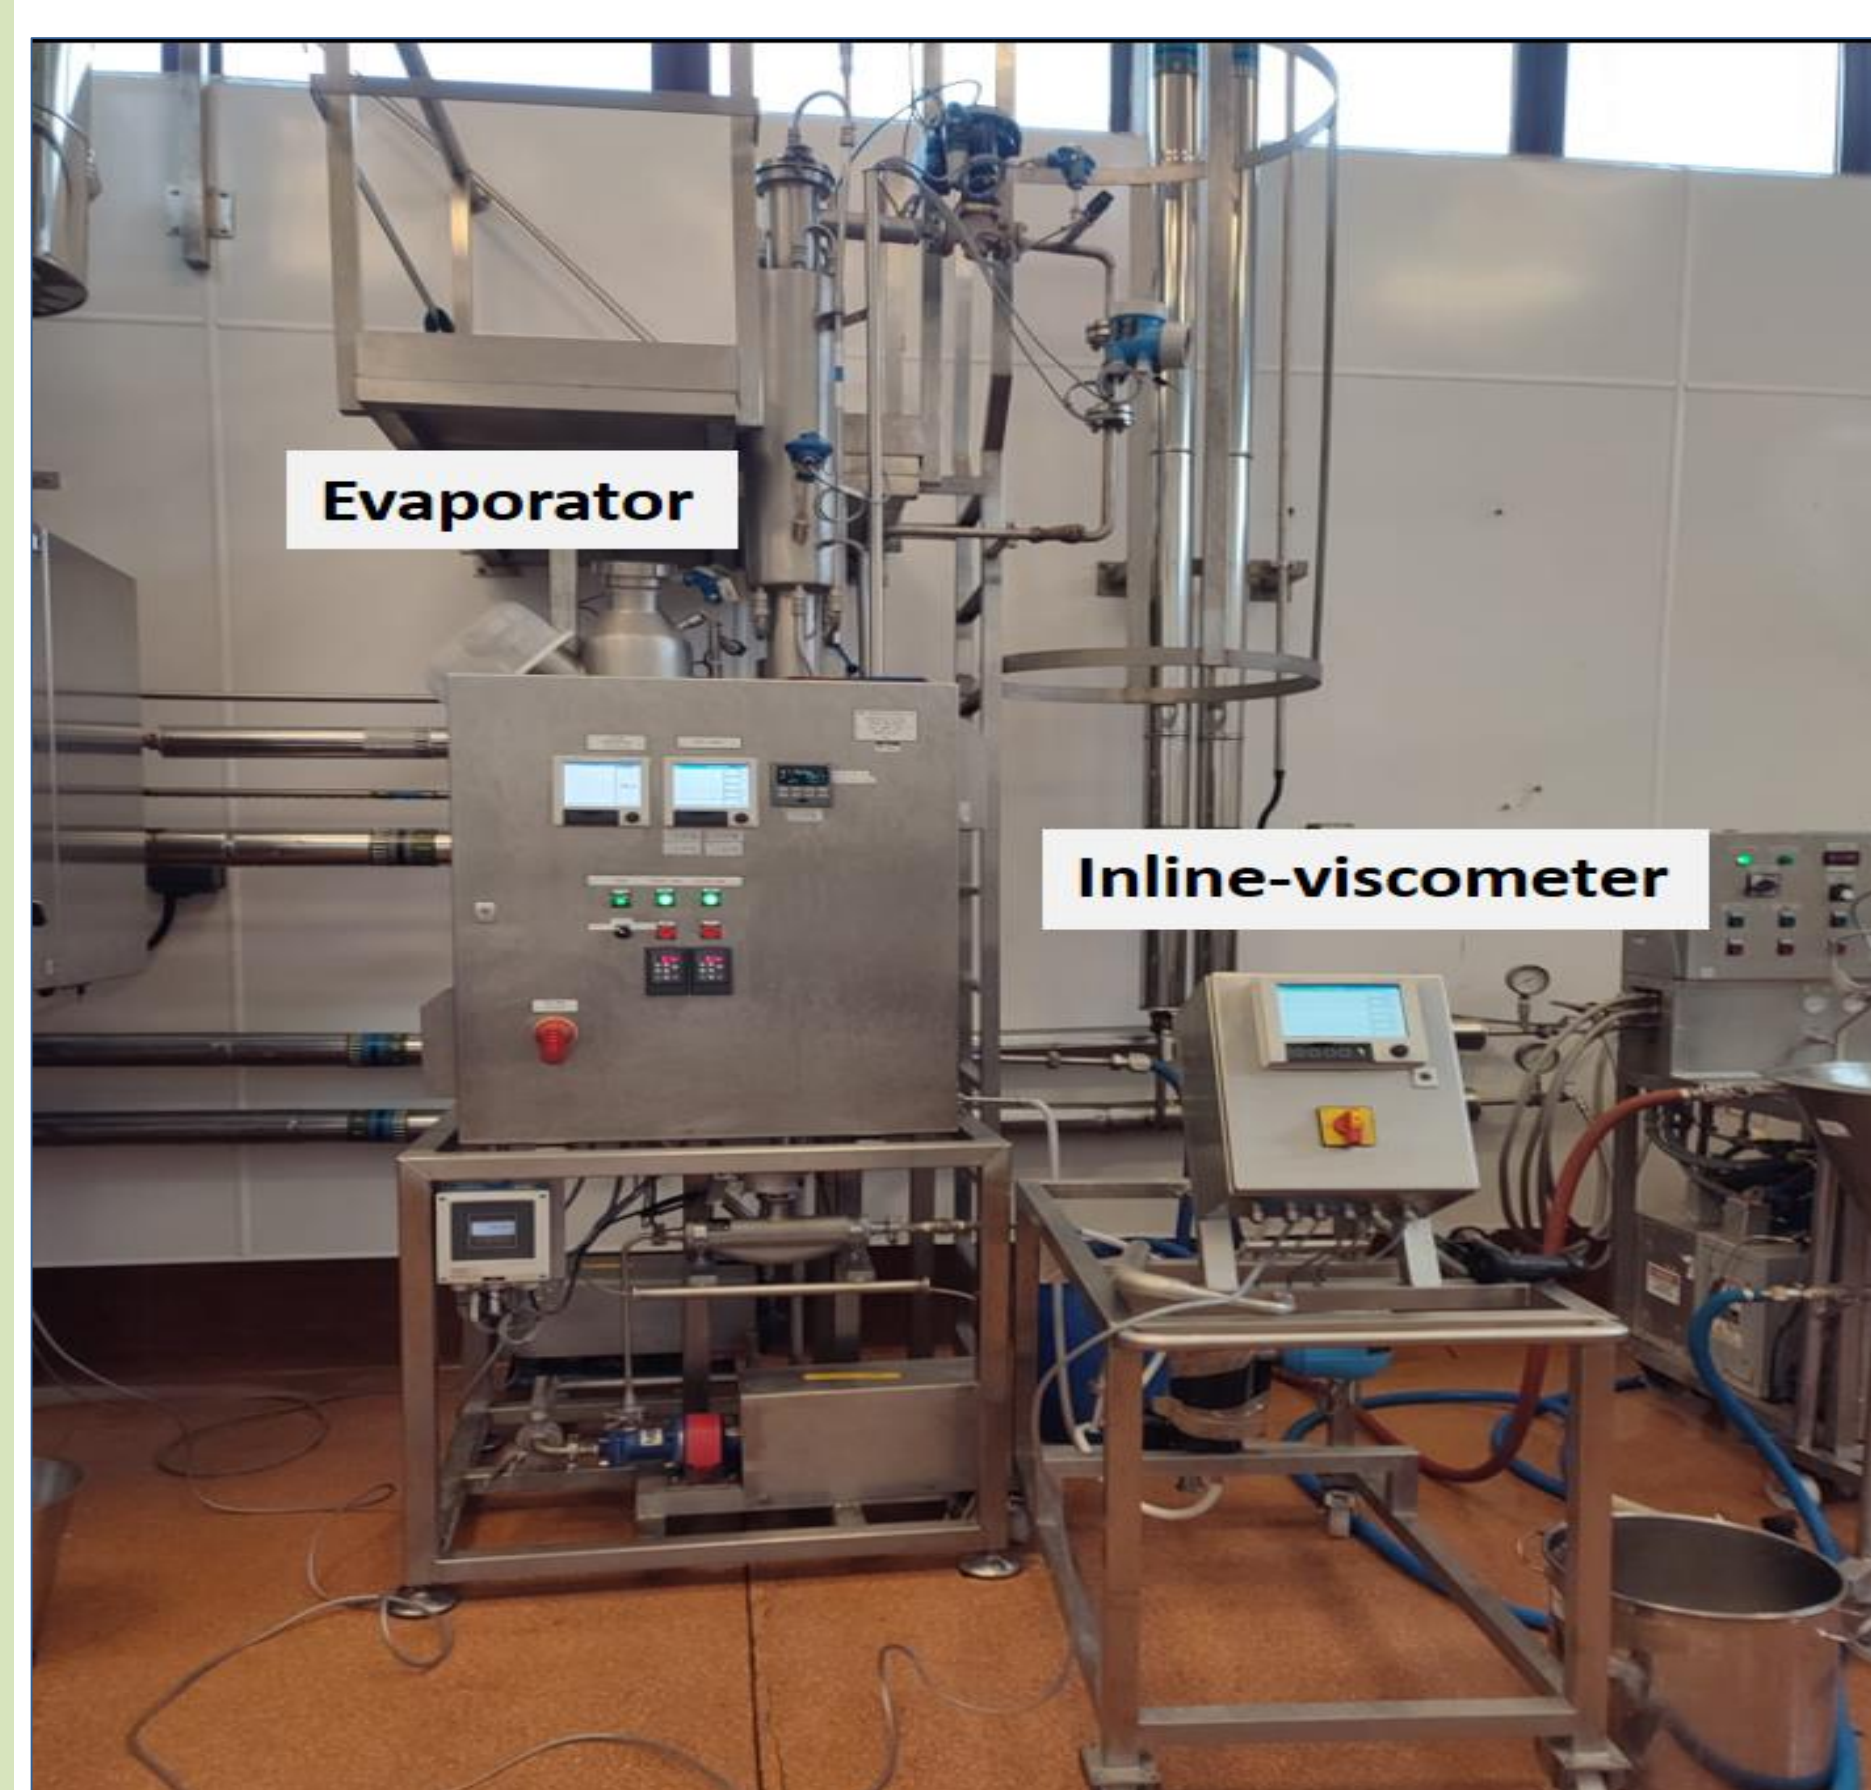

Fig. 1. Promass I 300 viscometer attached to the evaporator for pilot plant trials at Teagasc Moorepark
- This examination was conducted utilizing a single effect falling film evaporator, operated at batch mode, with a specific emphasis on the evaporation of skim milk (SM).
- Figure 1, illustrates the process viscometer inline with the evaporator at Teagasc Moorepark pilot plant.